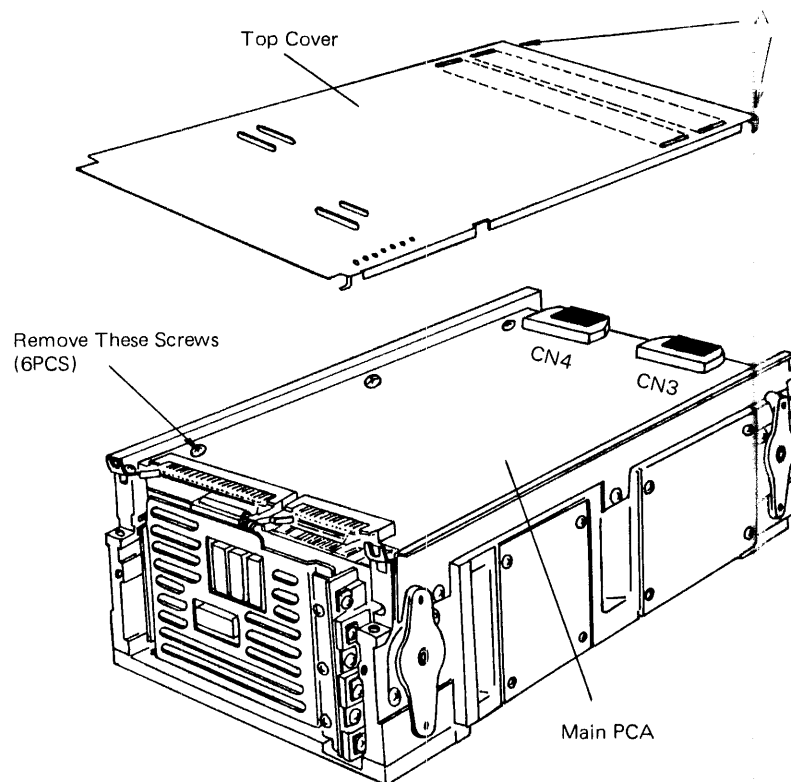

Figure 6.2 Main PCA replacement
Refer to Figure 6.2.
(1) Removal
- ① Loosen screws "A" and remove the top cover.
- ② Disconnect wiring (CN3 and CN4) from the Main PCA.
- ③ Remove the six screws indicated in Figure 6.2.
- ④ Remove the Main PCA by lifting up.
(2) Installation
- ① Fasten the Main PCA to the side frame, six screws.
- ② Fasten connectors (CN3 and CN4).
- ③ Install the top cover and tighten screws "A".